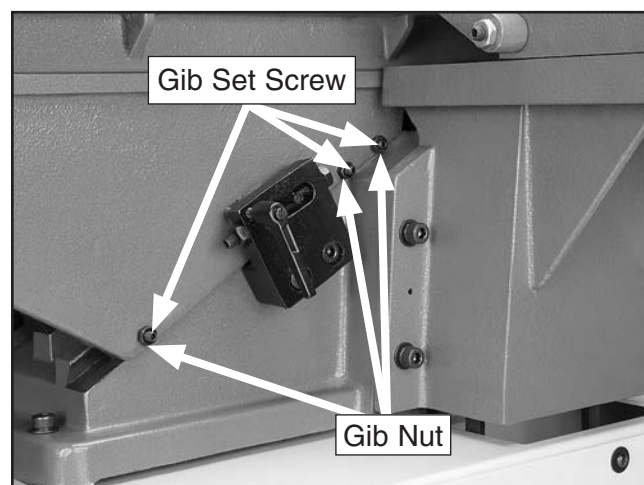

Figure 64. Infeed table gib controls.
1. Using a 10mm wrench, loosen the three infeed table gib nuts on the back of the jointer base (**Figure 64**).